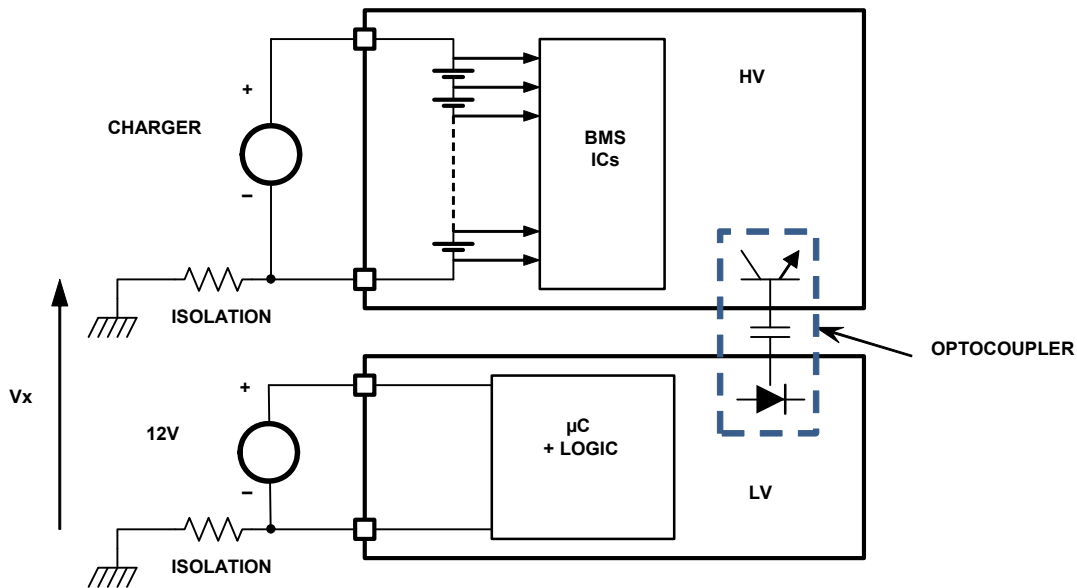

FIGURE 1. BATTERY MANAGEMENT SYSTEM DIAGRAM
Figure 1 shows a diagram of an automotive BMS. The system is split into two voltage domains: High Voltage (HV) and Low Voltage (LV). These domains are isolated from each other. The LV side is typically connected to system ground (chassis), while the HV side, which contains the batteries, is typically floating. Large transients can occur between the LV and HV grounds when the HV side is connected to another system, such as a battery charger, or when the battery charger changes current level abruptly. These transients, represented by voltage  $V_x$  in Figure 1, then appear directly across any optocoupler or other isolation devices used to carry signals between the LV and HV domains.